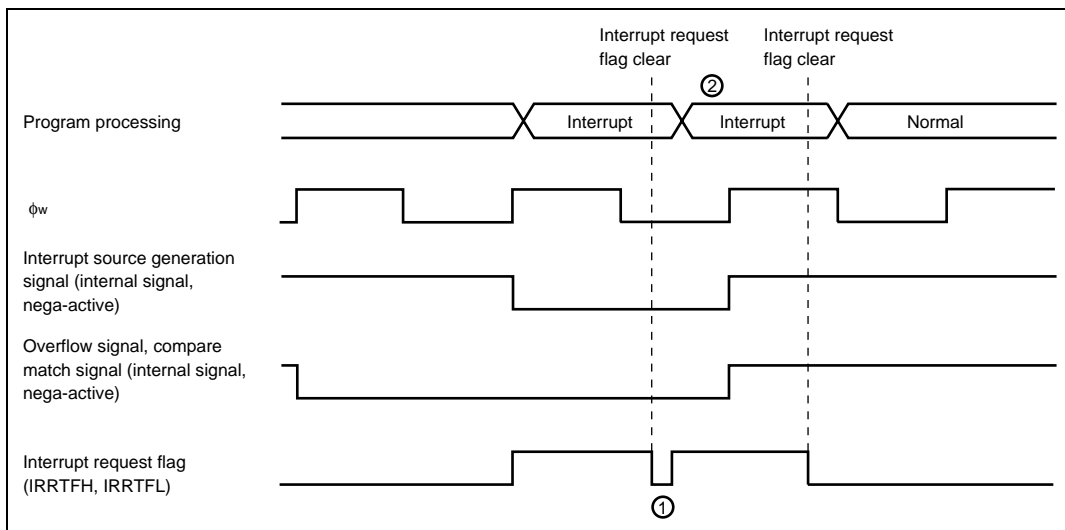

Figure 9.6 Clear Interrupt Request Flag when Interrupt Source Generation Signal is Valid
Clear Timer FH, Timer FL Interrupt Request Flags (IRRTFH, IRRTFL), Timer Overflow Flags H, L (OVFH, OVFL), and Compare Match Flags H, L (CMFH, CMFL): When $\phi_w/4$ is selected as the internal clock, “Interrupt source generation signal” will be operated with ϕ_w and the signal will be outputted with ϕ_w width. And, “Overflow signal” and “Compare match signal” are controlled with 2 cycles of ϕ_w signals. Those signals are outputted with 2 cycles width of ϕ_w (figure 9.6)
In active (high-speed, medium-speed) mode, even if you cleared interrupt request flag during the term of validity of “Interrupt source generation signal”, same interrupt request flag is set. (1 in figure 9.6) And, the timer overflow flag and compare match flag cannot be cleared during the term of validity of “Overflow signal” and “Compare match signal”.
For interrupt request flag is set right after interrupt request is cleared, interrupt process to one time timer FH, timer FL interrupt might be repeated. (2 in figure 9.6) Therefore, to definitely clear interrupt request flag in active (high-speed, medium-speed) mode, clear should be processed after the time that calculated with below (1) formula. And, to definitely clear timer overflow flag and compare match flag, clear should be processed after read timer control status register F (TCSRFB) after the time that calculated with below (1) formula.